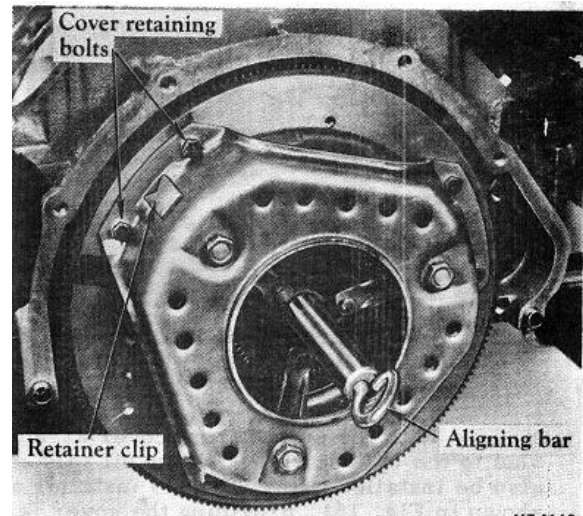

Fig. 155 Clutch Installation to Flywheel
19. Place the clutch driven disc against the flywheel so that the long portion of the hub is toward the rear. Place the clutch in position on the flywheel over the clutch driven disc, install two or three mounting capscrews and lockwashers loosely. Insert a clutch aligning arbor, if available, or a transmission main drive gear shaft, Fig. 155, through the clutch driven disc hub spline and into the clutch pilot bearing. Hold the clutch driven disc in position while completing installation of the remaining mounting capscrews and lockwashers in the flange of the clutch backing plate or cover. Tighten all capscrews alternately, evenly and securely. Remove the three retaining capscrews and flat washers or retaining clips or wood blocks which